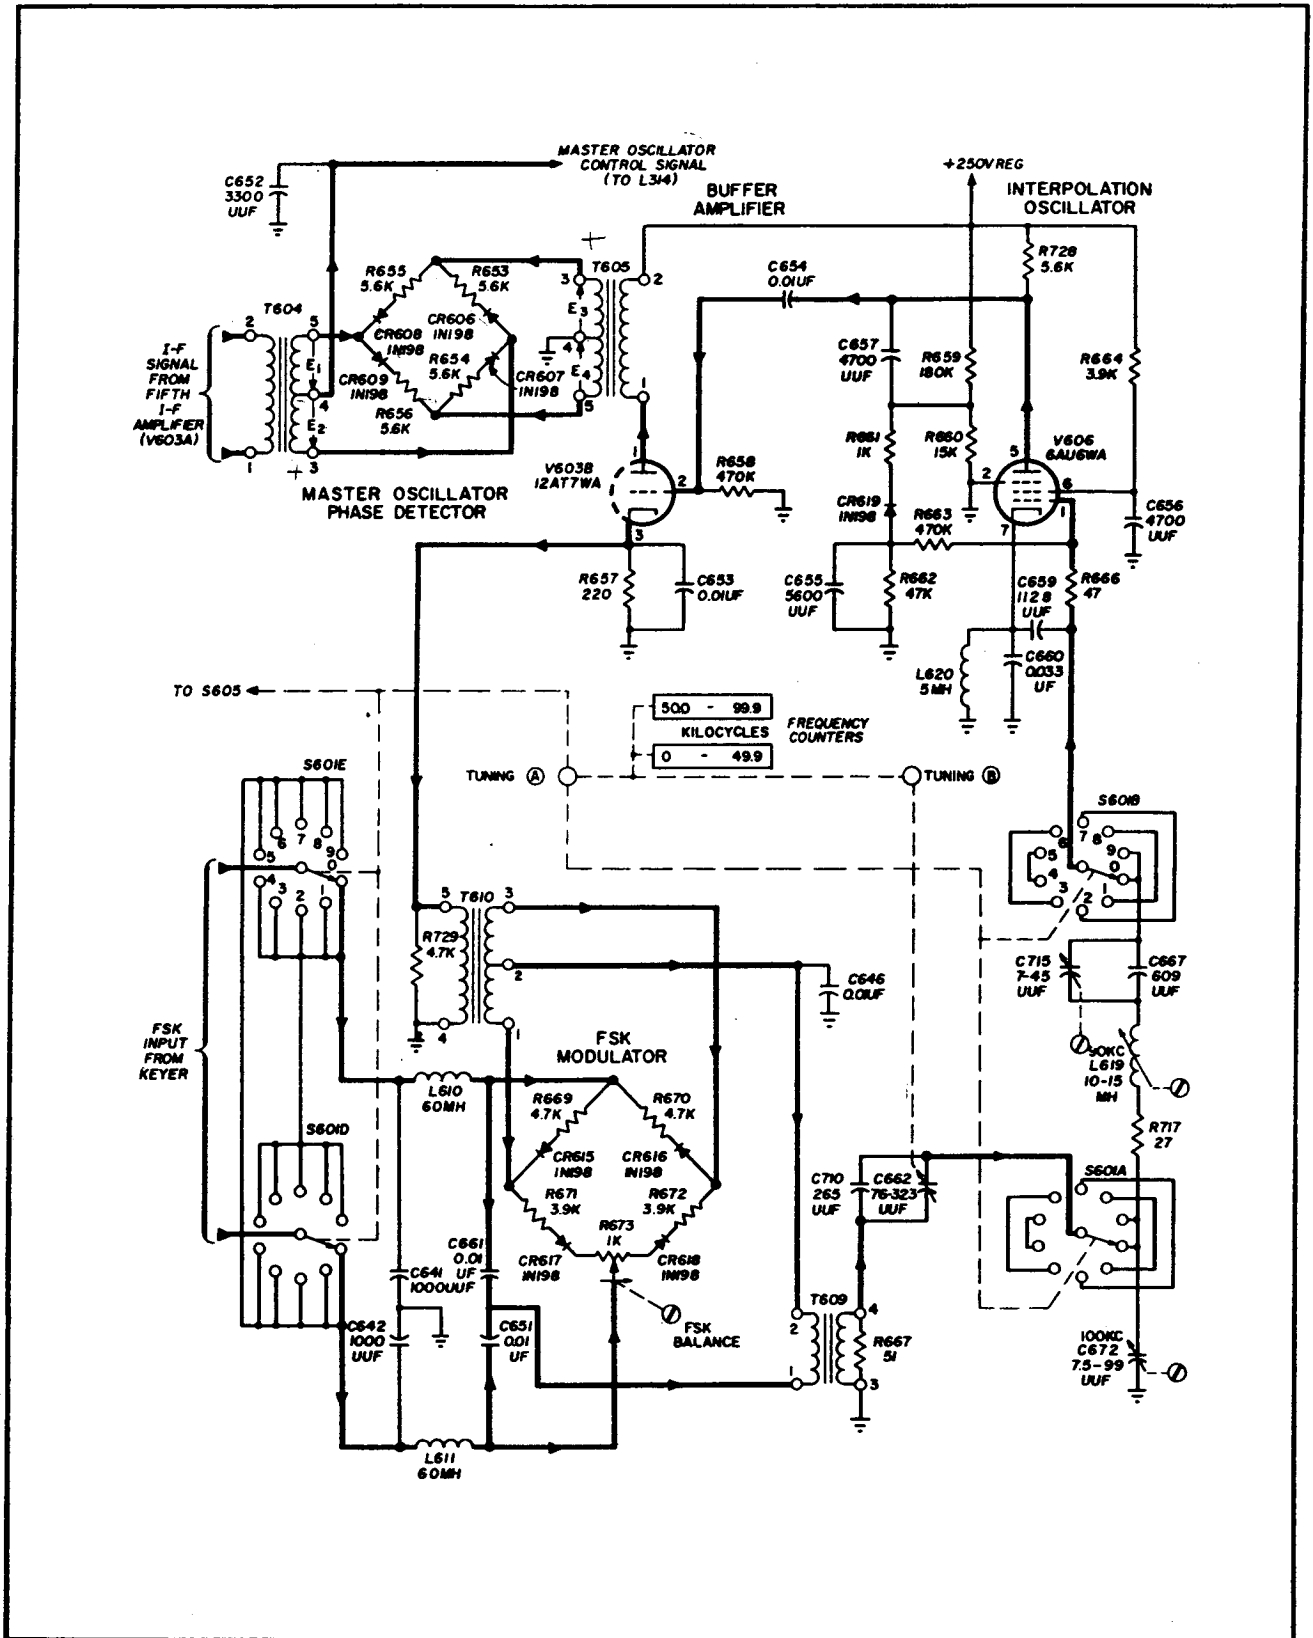

Figure 4-9. Master Oscillator Phase Detector, Interpolation Oscillator, and FSK Modulator, Simplified Schematic Diagram
(a) The circuits described below are located in an oven and on a subchassis contained in Electrical Frequency Control C-2861/WRT-1. A simplified schematic diagram of the circuits is shown on figure 4-9. For further detail refer to the schematic diagram of figure 6-26.
(c) As shown in figure 4-9, the interpolation oscillator, V606, is a modification of the Colpitts type of circuit. To simplify the analysis, only the frequency-determining components associated with positions 0 and 9 of bandswitch S601 are shown. TUNING (A) control (located on the front panel of Electrical Frequency Control C-2861/WRT-1) operates the bandswitch and sets the first kilocycle digit on the frequency counter on the front panel. The frequency-determining components shown are for the 90 to 100-kc band; they consist of coil L619 and capacitors C667, C715, C672, C710 and C662. Capacitors C715 and C672, and coil L619 are adjustable for tracking purposes during alignment. TUNING (B) control (located on the front panel of Electrical Frequency Control C-2861/WRT-1) varies the capacitance of C662 for band tuning and simultaneously sets the last three digits on the frequency counter. The counter has two windows and when the 10-kc digits of the desired carrier frequency are in the range of 0 to 49.9 the lower window of the counter is uncovered; when the 10-kc digits are in the range of 50 to 99.9-kc, the upper window of the counter is uncovered. To simplify the transmitter tuning procedure, the TUNING (A) and TUNING (B) control are set so that the 10-kc digits of the desired operating frequency appear on the counter. The interpolation oscillator frequency, however, has a range of only 50 to 100 kc. The reading of the frequency counter and the frequency of the interpolation oscillator are identical only when the last 10-kc digits of the operating frequency are in the range of 50 to 99.9 kc. As shown in figure 4-8, bandswitch positions 0 and 9 select identical frequency-determining components; positions 1 and 8, 2 and 7, 3 and 6, and 4 and 5 are also in each case identical. The interpolation oscillator frequencies versus the readings of the counter dials may be determined from the following table.
(d) Capacitor C569 (refer to figure 4-9) provides the necessary positive feedback path for sustaining oscillations in the resonant grid circuit of the interpolation oscillator, V606. The cathode r-f current path is through capacitor C660; choke L620 provides a d-c current path. The r-f signal developed across resistor R728 is coupled to the grid of buffer amplifier V603B through capacitor C654. The buffer amplifier isolates the oscillator from the loading effects of the master oscillator phase detector and the reactance modulator.
(e) An automatic bias control circuit is provided for the interpolation oscillator stage in order that the tube may be kept from drawing grid current. Harmonic generation and frequency instability are thus reduced. As shown in figure 4-9, diode CR619 is normally biased to cutoff by the positive d-c voltage drop across resistor R660. The plate output of V606 is coupled to the cathode of CR619 through capacitor C657 and when the negative-going portion of the a-c signal exceeds the reverse bias on the diode, it conducts. The pulses of current are filtered by capacitor C655, and a negative d-c voltage proportional to the oscillator output is developed across load resistor R662. The negative bias is applied through resistor R663 to the grid of V606.
(g) As shown in figure 4-9, the output of the fifth i-f amplifier and the output of the buffer amplifier are applied to the master oscillator phase detector through, respectively, transformers T604 and T605. The d-c output of the phase detector appears across capacitor C652 and is applied through a coaxial cable to the feedback amplifier chassis. After passing through a 10-kc low-pass filter, the control voltage is subjected to the action of the feedback amplifier circuits and then passes through another coaxial cable to the saturable reactor in the master oscillator circuit. When the i-f and interpolation oscillator signals are
(h) To understand the operation of the diode bridge phase detector, assume first the case where i-f and interpolation oscillator are in phase. In such a case, during one half of the a-c voltage cycle terminal 3 of T605 will be positive with respect to terminal 5, and terminal 3 of T604 will be positive with respect to terminal 5. The secondary voltage of T605 causes diodes CR608 and CR609 to conduct; the secondary voltage of T604 causes diodes CR606 and CR608 to conduct. To add clarity to the discussion, the various voltages at the transformer secondaries will be designated as follows: E_1 —voltage from center tap to terminal 5 of T604—center tap positive; E_2 —voltage from center tap to terminal 3 of T604—center tap negative; E_3 —voltage from center tap to terminal 3 of T605—center tap negative; and E_4 —voltage from center tap to terminal 5 of T605—center tap positive. (These arbitrary voltage designations are indicated on the simplified schematic of figure 4-9.) Voltage E_1 is in series with E_3 through resistor R655 and diode CR608. Voltage E_2 is in series with E_4 through resistors R653, R655, and R656 and diodes CR606, CR608, and CR609. Capacitor C652 is bridged between the center taps of the two transformers, and the current path of least resistance determines the net charge on the capacitor. In the present example, voltages E_1 and E_3 are in series with the path of least resistance and therefore capacitor C652 will have a charge positive with respect to ground. During the next half cycle of a-c voltage, the polarities of E_1 , E_2 , E_3 , and E_4 are reversed. Voltages E_2 and E_4 are now in series with the low resistance path consisting of resistor R654 and diode CR607 and the positive charge on C652 is maintained.
order that the phase detector will not produce an inhibiting correction voltage. Frequency shifting of the interpolation oscillator is accomplished by the output of the FSK modulator. As shown in figure 4-9, the FSK modulator utilizes a diode bridge very similar to that used in the phase detector discussed in the previous paragraph. As in the previous case, the bridge serves in effect as a switch. A sample of the interpolation oscillator output is developed across terminals 3 and 1 of transformer T610 and applied to two corners of the bridge. The d-c FSK keying voltage passes through switch wafers S601E and S601D, is filtered by low-pass filters consisting of chokes L610 and L611 and capacitors C641 and C642, and then is applied to the other two corners of the bridge. The modulator output transformer, T609, is connected to the center tap of T610 and to the junction of d-c isolation capacitors C661 and C651.
(l) In the discussion of paragraph 4-2b(6)(e), it was pointed out that the i-f signal from the mixers was obtained by using the difference frequency developed when the harmonic of 100-kc was greater than the r-f sample frequency if the last 10-kc digits of the latter were in the range of 0 to 50-kc. When the last 10-kc digits of the r-f sample were in the range of 50 to 100-kc, the difference frequency used for the i-f was that developed by the r-f sample and a 100-kc harmonic of lower frequency. In order to prevent a correction signal from being applied to the master oscillator, the interpolation oscillator must decrease in frequency when the i-f decreases and must increase in frequency when the i-f increases. To accomplish this over the entire 0 to 100-kc band, the polarity of the FSK signal is reversed on the appropriate bands by switch sections S601E and S601D when the nature of the i-f signal changes. (Refer to figure 4-9.) Sideband selector switch S605 is closed until the moving contact of S601 reaches position 5 and thus sideband selector relay K602 is energized while S601 is in positions 1 through 4.